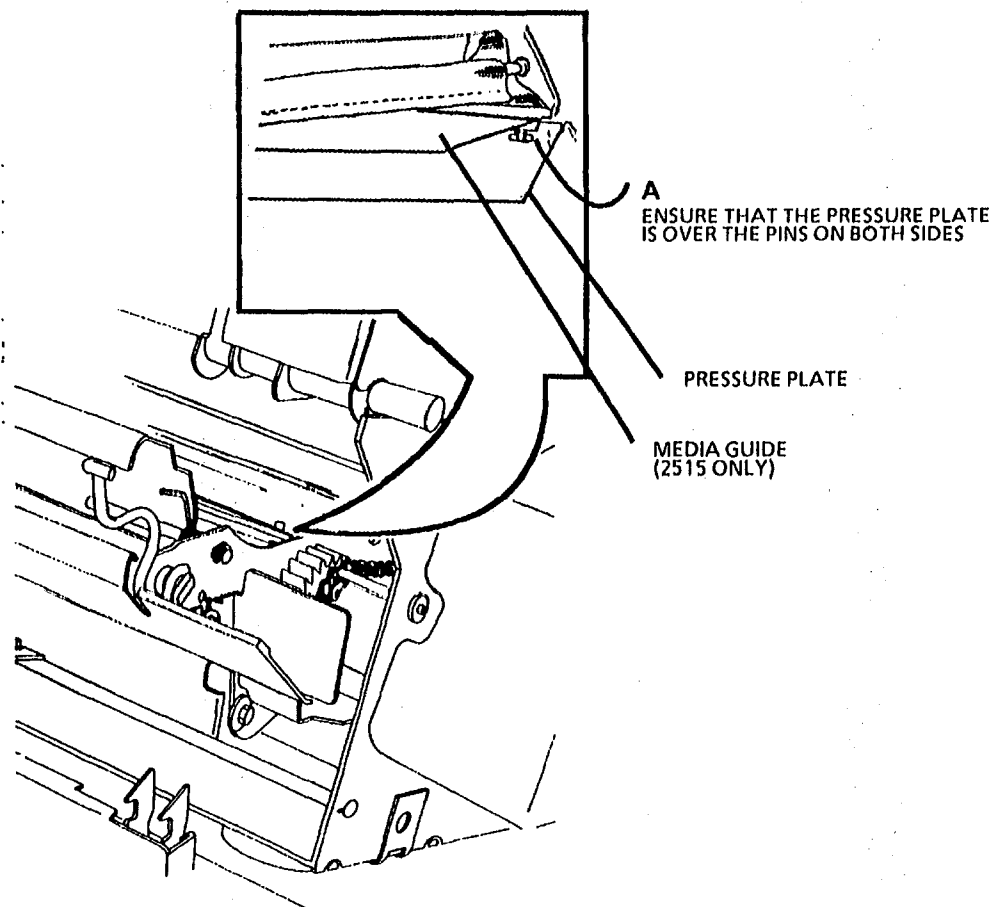

Figure 16. Checking the Position of the Pressure Plate
18. (Figure 16): Check the position of the pressure plate.